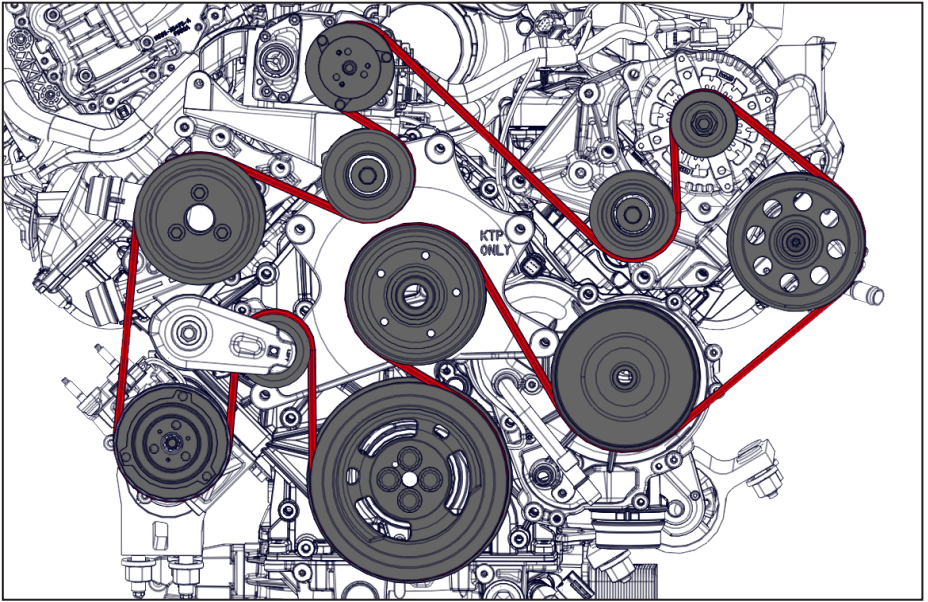
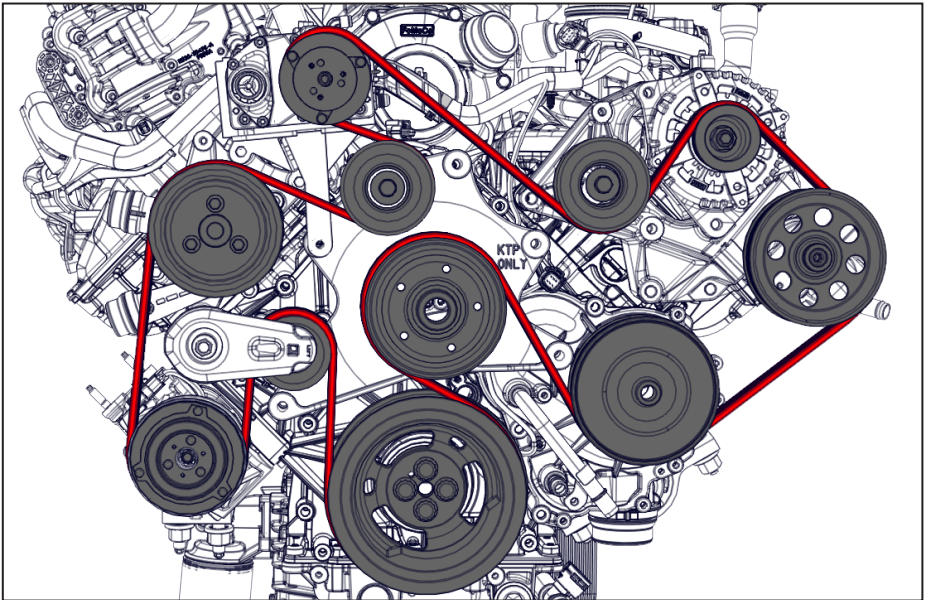

Figure 16 — Belt routing
Figure 17 — A900018 Belt routing
- Install and tension the VMAC supplied FEAD belt (Figure 16, Figure 17).